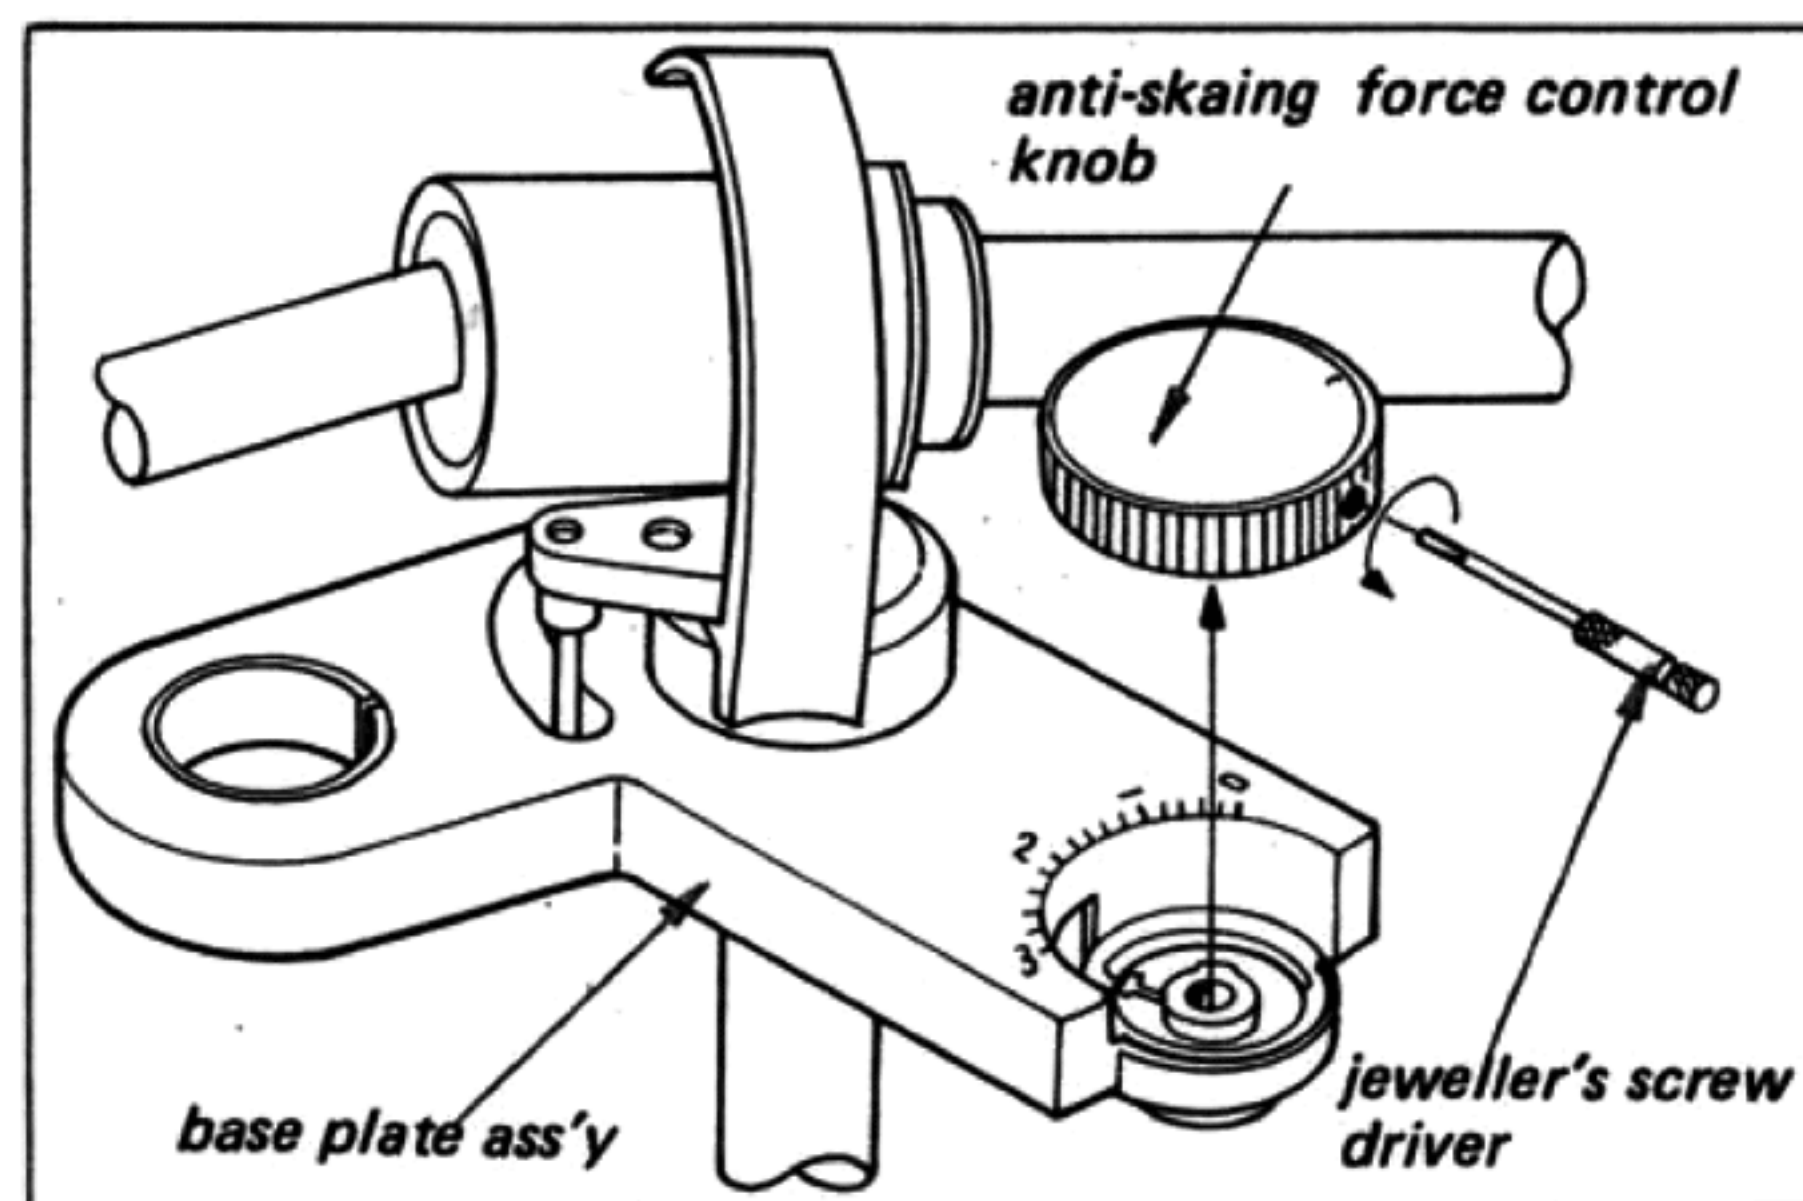

Fig. 2-16. Anti-skating force control knob removal
3. Remove the anti-skating force control knob by loosening the set screw with a jeweller's screw driver as shown in Fig. 2-16.